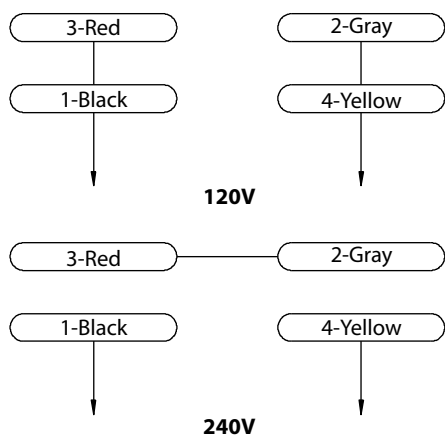

Figure 7 – Wiring Diagram
- Motor and wires are installed as shown in wiring diagram (See Figure 7). Motor is assembled with approved, 3-conductor cord to be used at 120/240 volts. Motor is prewired at the factory for 120 volts.